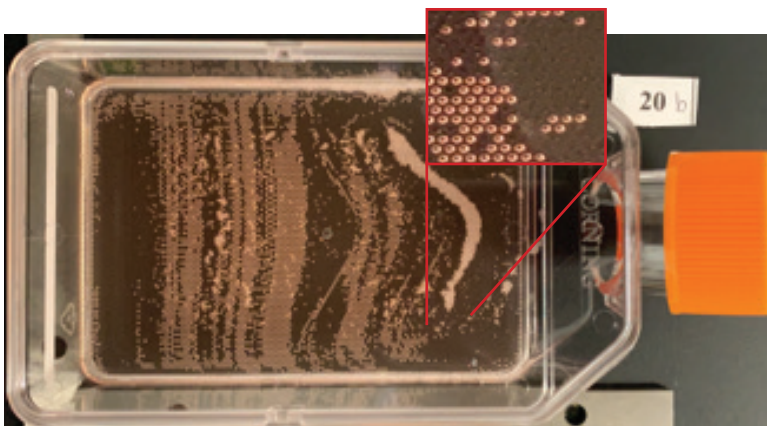

Figure 2. Example of trapped air (opaque areas) in a Corning Elplasia 12K flask if the surface is not treated with a wetting agent prior to adding medium.
4. Allow the wetting agent to enter the microcavities without assistance. As the wetting agent enters the microcavities, the microcavities will become optically clear. Should the wetting agent not enter the microcavities, trapped air will appear as opaque areas on the microcavity surface (Figure 2). If there are microcavities with trapped air, cells in suspension will not settle into those structures.